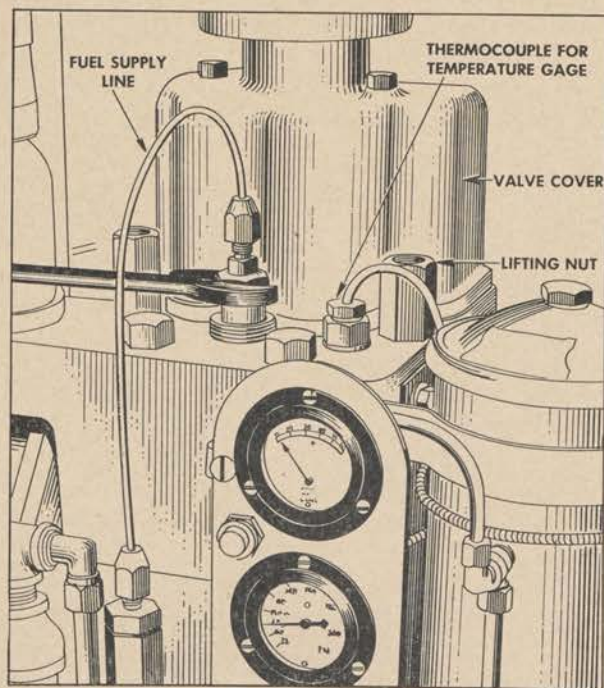

Figure 263. Removing fuel injection valve.
(1) *Cylinder head.* (a) *Description.* The single cylinder head contains the valves and valve springs, combustion chamber, and rocker arm assemblies. Two head lifting nuts are secured to the head and are threaded to receive lifting bolts for raising the engine during installation. (See fig. 263.) The cylinder head is cored for cooling water passages. A thermostat fitting mounted on the cylinder head regulates water cooling temperature.
3. Remove the fuel injector from the cylinder head, using a 1-inch wrench on the body of the assembly. (See fig. 263.)
5. Drain the water from the engine as described in paragraph 44g (3).